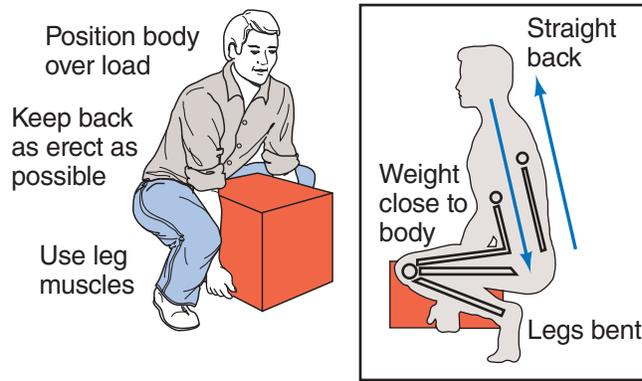

FIGURE 2.4 Lifting precautions.
- Bend your knees and lift with your legs, not your back (**FIGURE 2.4**). Also, keep your lower back straight when lifting. Think about thrusting your stomach out.